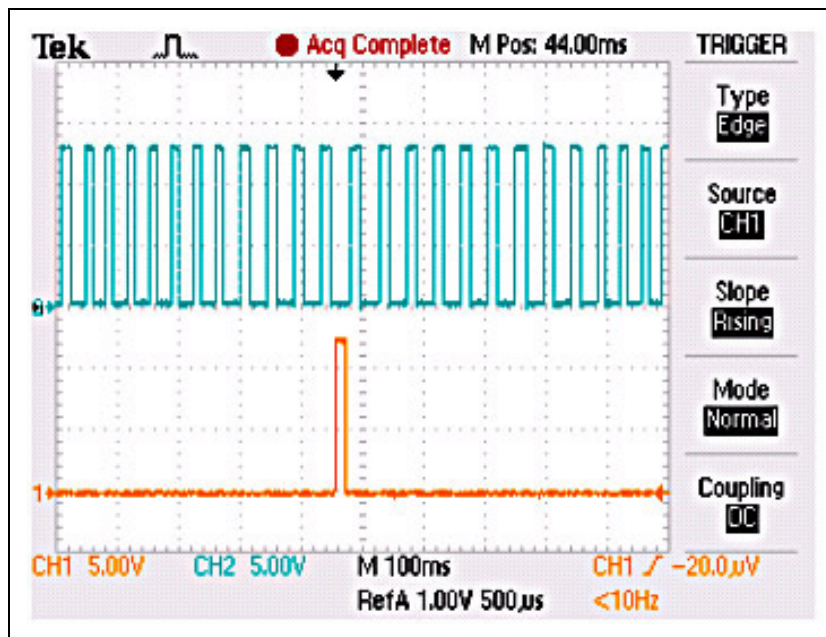

Figure 2.
- b) The EPM puts out a 12V square wave, 24 crank signals and 1 short pulse cam signal every 360 distributor degrees, see figure 2.